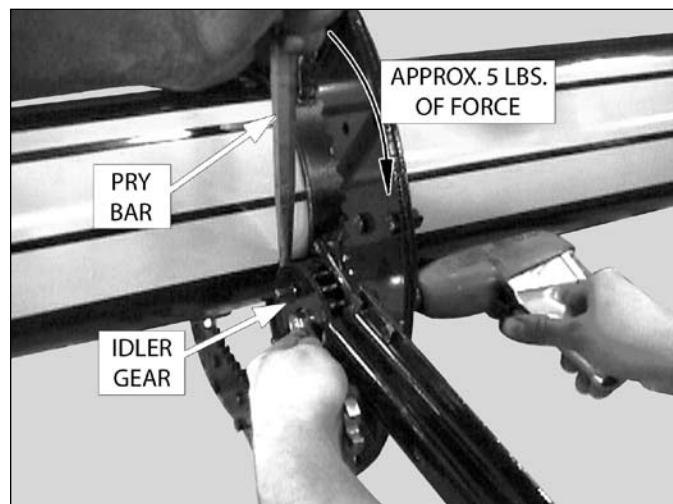

Figure 48, Tightening center locknuts of idler gears
2. Insert a small pry bar between the outside wall of the manifold tubing and the idler gears. Apply approx. 5 lbs of force to slide the gear away from the manifold (Figure 48).